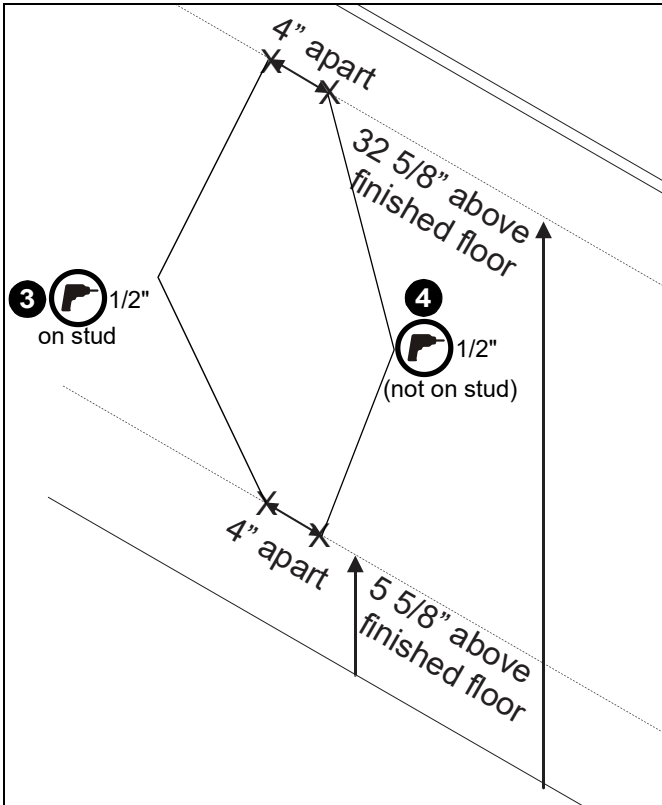

Figure 19
1. Measure 5 5/8" off the finished floor to mark lower mounting locations and 32 5/8" off the finished floor for upper mounting locations with one of the locations being centered on stud. Holes must be 4" apart horizontally. (See Figure 19)
2. Mark hole locations at each mounting location. (See Figure 19)
3. Drill two 1/2" holes at marked hole locations on stud. (See Figure 19)
4. Drill two 1/2" holes on marked hole locations NOT on stud. (See Figure 19)